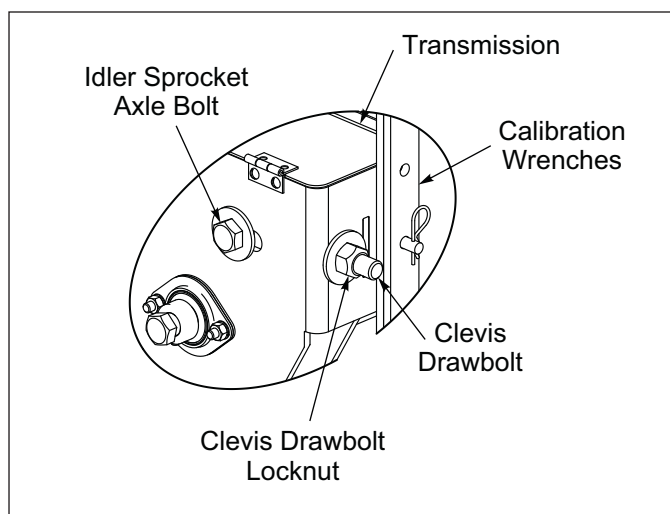

Figure 2-52: Loosen Idler Sprocket
5. On the back of the Transmission by the Calibration Wrenches, loosen the Transmission #40 Drive Chain Idler Sprocket Axle Bolt and Clevis Drawbolt Locknut to loosen Drive Chain tension. **See Figure 2-52.**